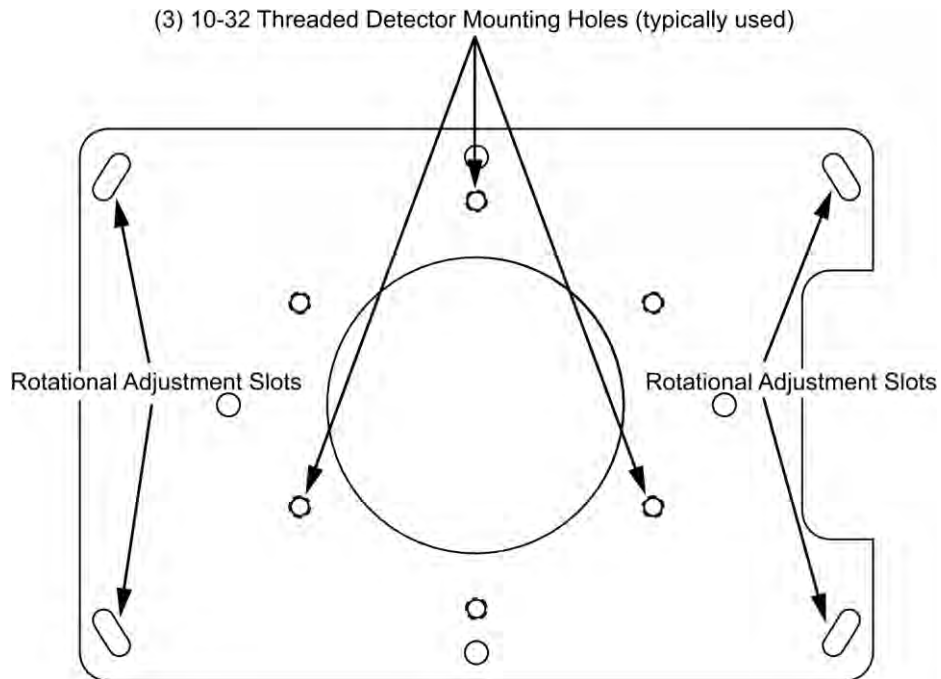

Figure 2-9. Mounting Plate
5. Loosen the rotation adjustment screws (see Figure 2-9) enough that you can rotate the detector. The mounting plate holes are slotted to allow about 4° of rotational positioning.